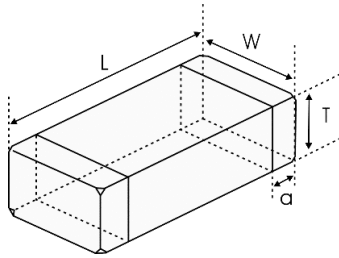

图 1 Fig.1
- 尺寸: 见图1 和表 1
- Dimensions: See Fig.1 and Table 1.